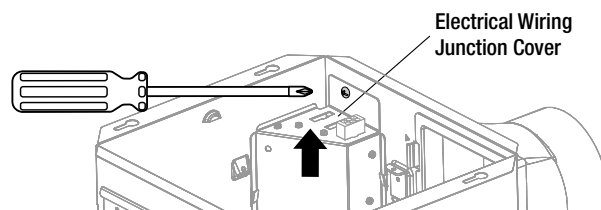

Fig. 8
- Unscrew the screw securing the electrical wiring junction cover and slide the cover upwards to remove it. See figure 8.